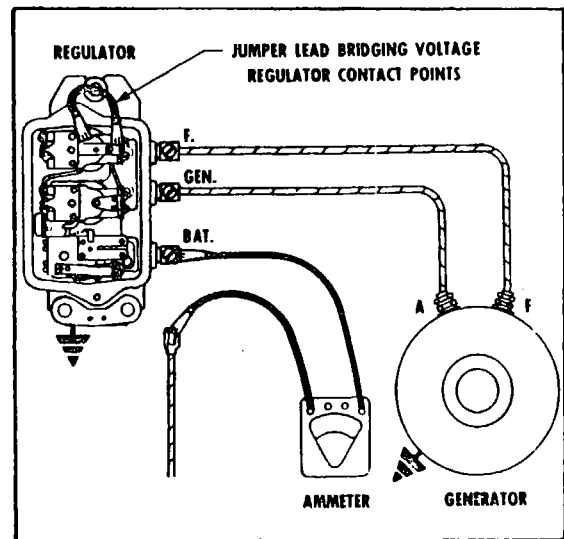

Figure 11-17. Checking Current Regulator, Jumper Lead Method
- (a) Connect ammeter into charging circuit as in Figure 11-17.
- (b) Connect jumper lead across voltage regulator points as in Figure 11-17.